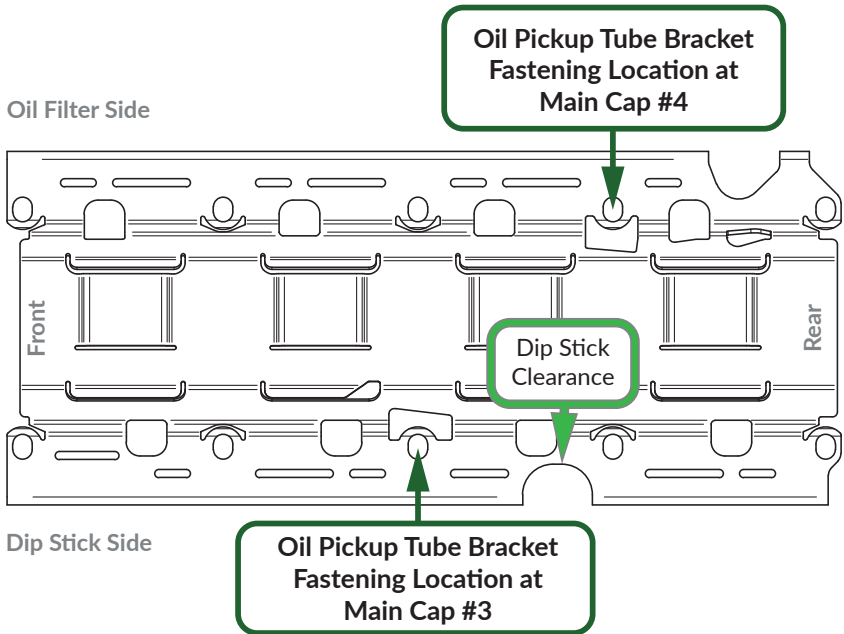

Figure 1 - Pickup Tube Fastening Locations for EGM-241
- The aftermarket oil screen fastens to the main cap locations shown in Figure 1.